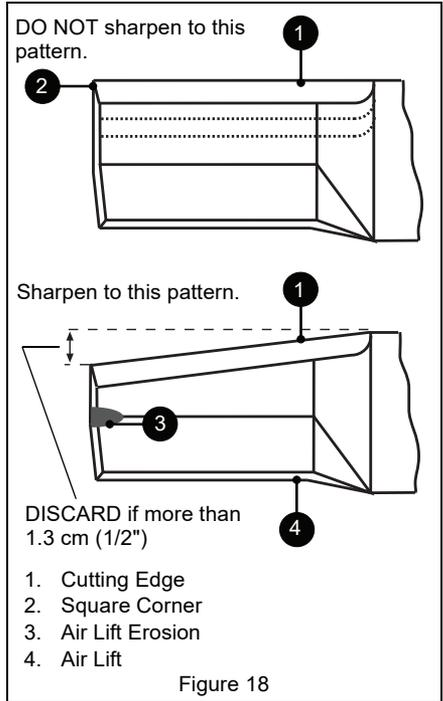

Figure 18
2. File or grind an equal amount of material from each cutting edge of the blade until sharp. DO NOT change angle of cutting edge or round the corner of the blade. See Figure 18.